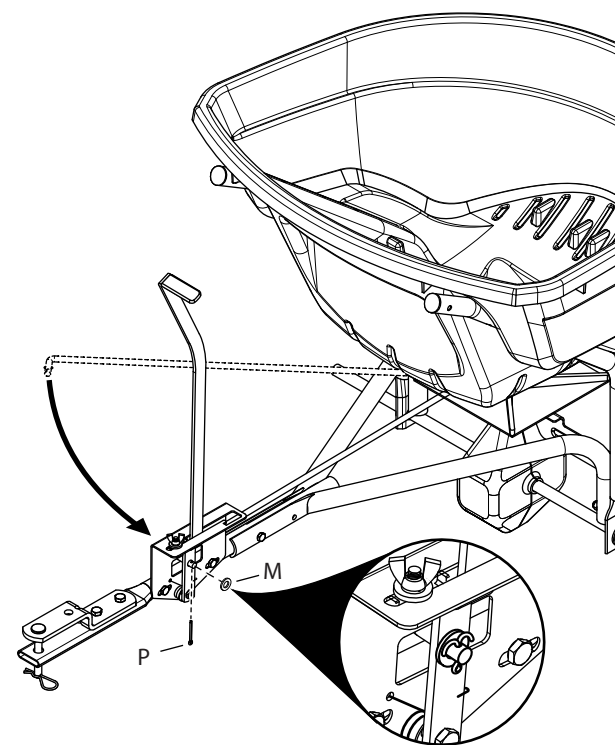

Figure 12
STEP 12: (SEE FIGURE 12)
- Swing the flow control rod around and insert the end of the rod into the flow control arm. Secure it with a 1/4" washer (M) and a 3/32" x 3/4" cotter pin (P).